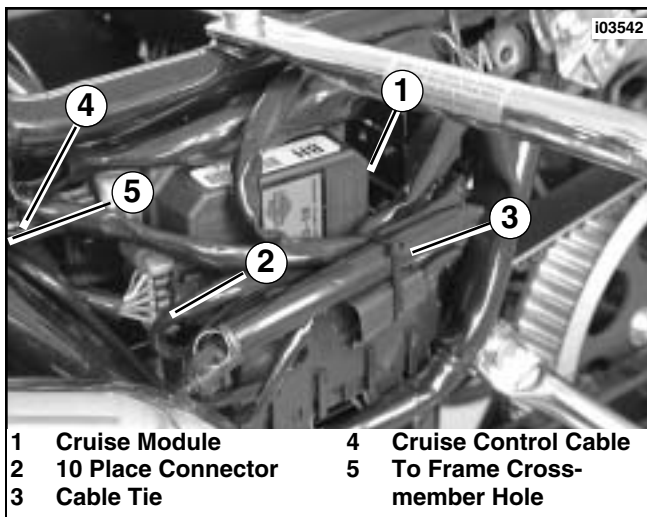

Figure 3. Mount Cruise Control Module
7. See Figure 3. Remove the fuse block cover panel by pulling straight out from mounts and temporarily position the cover away from the mounting area. Align the cruise module studs (and grommets) with mounting holes in battery box and push module firmly into position. Make sure grommets enter mounting holes in battery box.
8. See Service Parts Illustration. Obtain the three flange locknuts (5) and install to cruise control module studs (inside battery box). Tighten nuts 9-11 ft-lbs (12.2-15 Nm). Locate the 10-place connector harness (normally wire tied to frame tube next to battery box) and cut the tie. Route connector downward and install the at 10-place receptacle in cruise module.